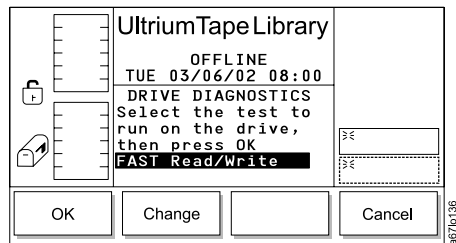

Figure 345. Drive Diagnostics Dialog
5. Press the button below the **Diags** softkey. The Drive Diagnostics Dialog displays the first of the six diagnostics that you can run on the specified drive (see Figure 345 on page 225). Each diagnostic is presented one at a time.